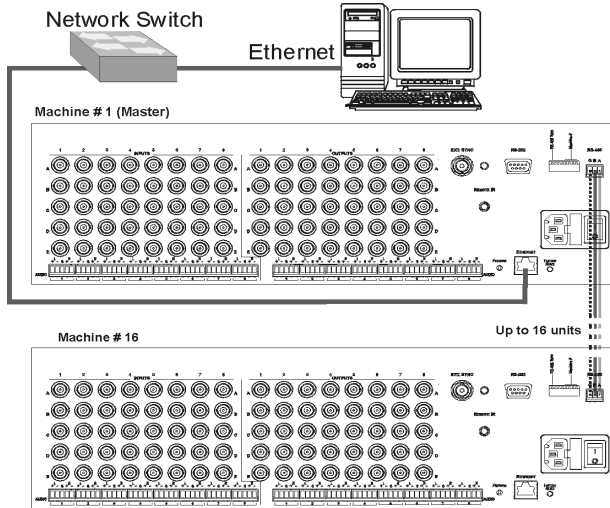

Figure 8: Connecting to the VP-885 via Ethernet
- Connection via a network hub, switch, or router, using a straight-through cable as shown in Figure 8 (see Section 6.4.2)